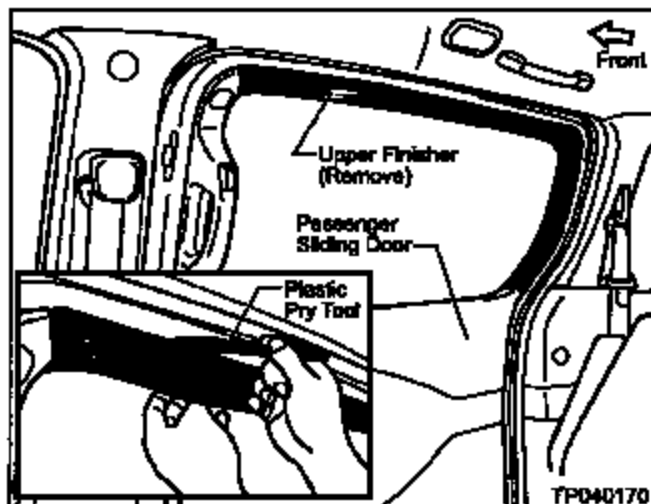

Figure J12
15. Remove the Upper Finisher from the Sliding Door (see Figure J12).
- Use a Plastic Pry Tool (J-48534\* or equivalent) to release the securing clips (see Figure J12).